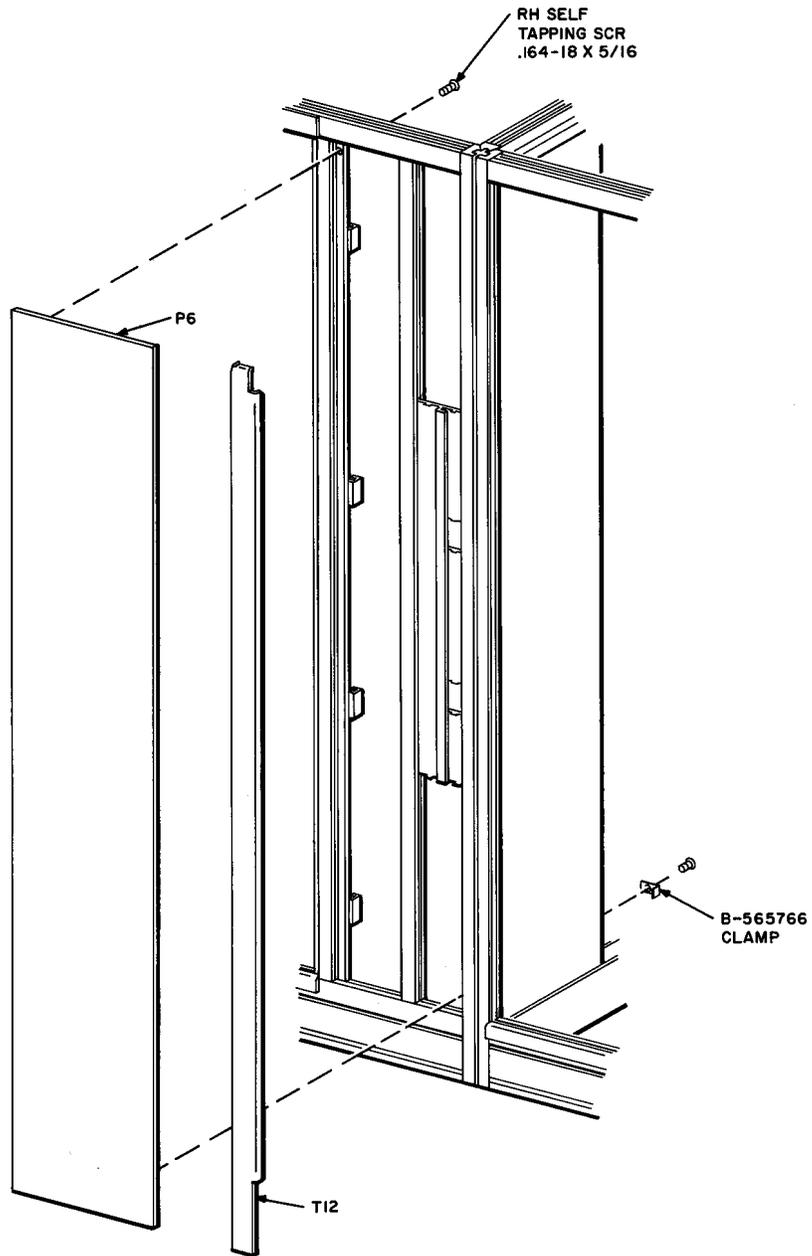

Fig. 31 — F-1 and F-3 Walls Assembled Back-To Back
- (m) Install T12 trim strip between F-1 and F-3 walls (Fig. 31).
(q) Install P6 panel (Fig. 31) on each of F-1 walls using four B-565766 clamps and twelve .164-18 by 5/16 unpainted Phillips round head self-tapping screws.
- (n) Install T12 trim strip between F-1 and F-3 walls (Fig. 31).
- (r) Install P6 panel (Fig. 31) on each of F-1 walls using four B-565766 clamps and twelve .164-18 by 5/16 unpainted Phillips round head self-tapping screws.